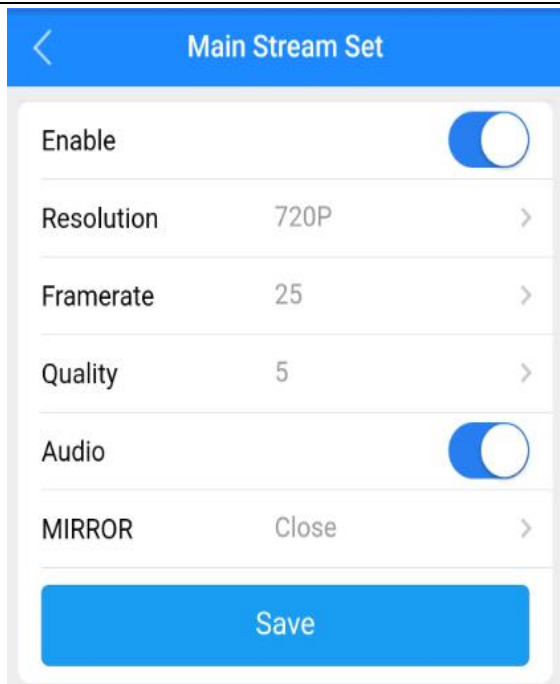

Fig.3.7 Channel setting
Step 4: Click on **Save**. (Fig.3.7)